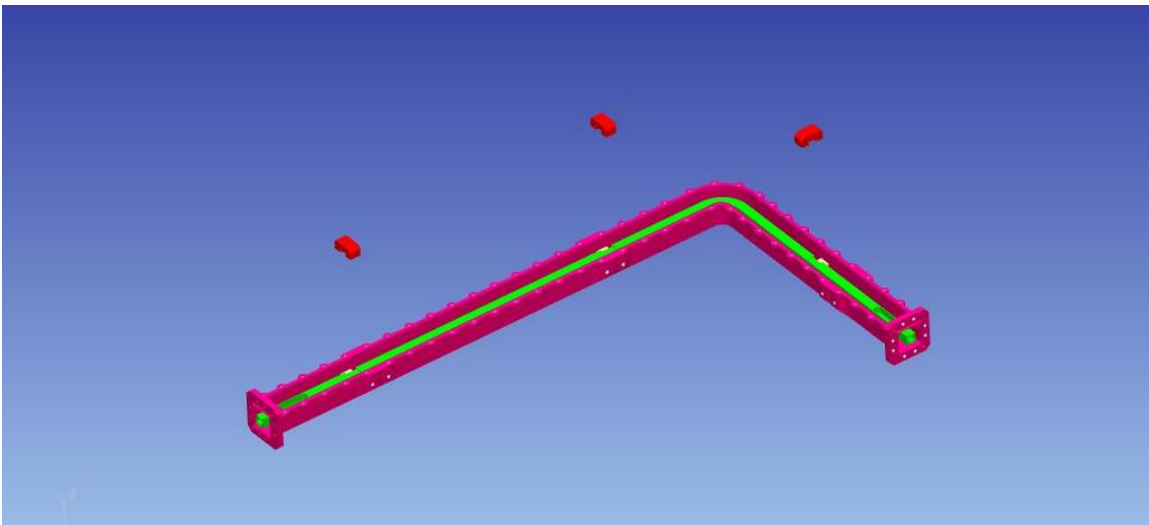

Figure 6: Installation of Top Boron-Nitride Spacers
6. Carefully install top Boron Nitride spacers onto inner conductor (Figure 6). **Do not touch spacers with bare hands, use gloves!**
5. Carefully install top Boron Nitride spacers onto inner conductor (Figure 6). **Do not touch spacers with bare hands, use gloves!** Use same spacers as previously used if no damage to spacers is found. Place spacers in the same location as they were in Pressure Test #1.